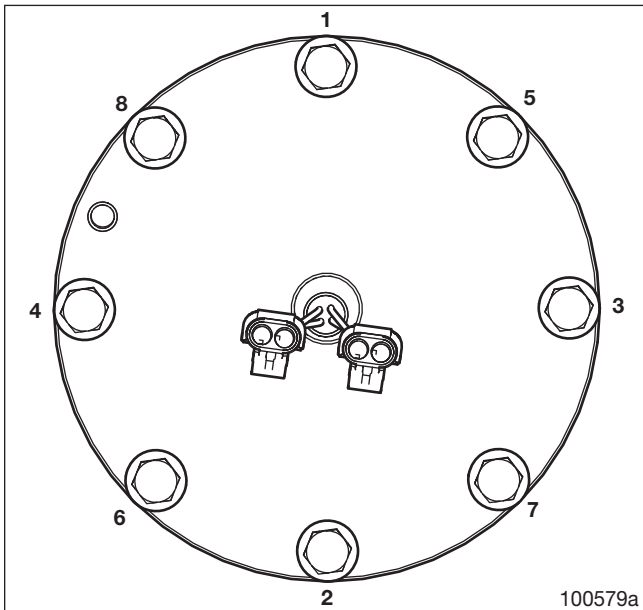

Figure 47 – Fuel Tank Service Cover Tightening (Typical)
5. Install the tank service cover on the tank with the eight (8) cover bolts. Torque the bolts in the star pattern shown in Figure 47 as follows.